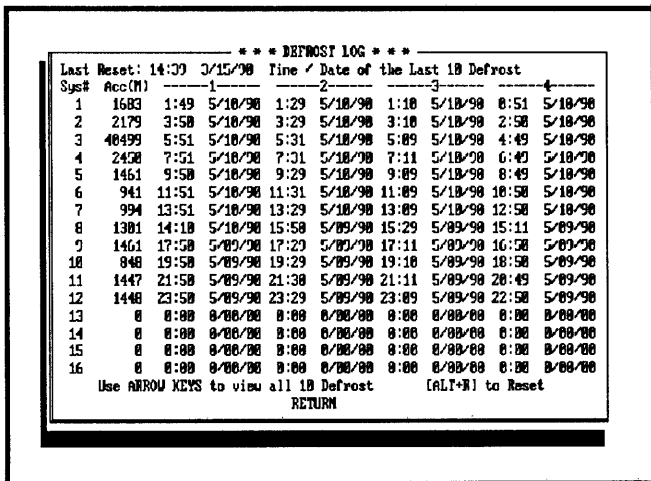

Figure D-21: Defrost Log Screen
Selecting <ALT> and "C" first runs a read-in for the defrost logs. "Reading Defrost Logs 1" through 12 appear on the display, then the numbers change throughout the read-in period until all 32 systems are read. Next the Defrost Log Screen (Figure D-21) pops up to view the the time and date of the last 10 defrosts for each of the 32 refrigeration circuits. To display all 10 defrost logs, use the <RIGHT> and <LEFT> cursor keys. To display all 32 system listings, use the <UP> and <DOWN> cursor keys. The time under "Acc (M)" is the time in minutes the system has been in defrost since the accumulator was last reset. The times and dates shown are the TERMINATION TIMES of the last 10 defrosts for each system.